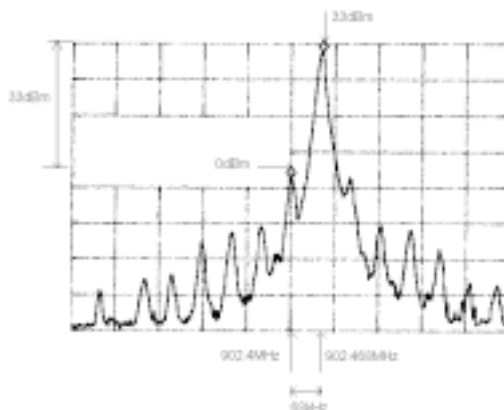

Figure 20: Carrier leakage ratio
2. Figure 20 in the spectrum analyser measure the carrier leakage ratio Carrier leakage ratio is measured as the ratio of peak power to the power at 68kHz below peak frequency